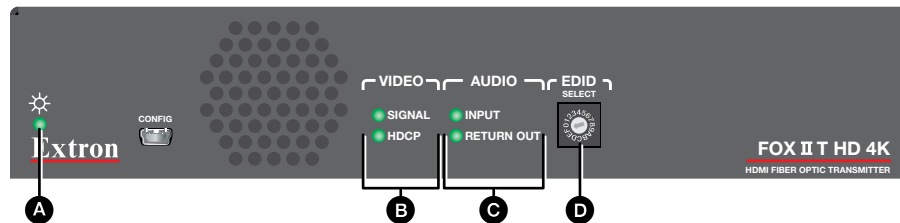

Figure 9. FOX II T HD 4K Front Panel Features
- D EDID Select rotary switch** (see figure 9 on the previous page) — Set this switch to one of the positions below to select the source of the DDC or a specific resolution.